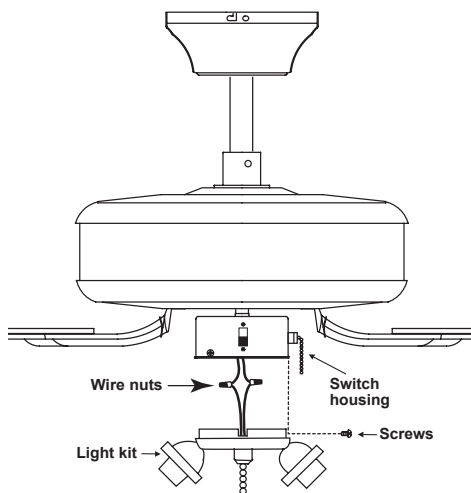

Figure 19
Step 2. Raise and hold the light kit close to the switch housing and proceed to do the wire connections, connect the blue wire from the switch housing to the black wire from the light kit. follow the same procedure with the black connectors. Use the wire connecting nuts supplied with your fan. (Fig. 19)
Step 3. Attach the light kit to the switch housing by using the three (3) screws provided. (Fig. 19)